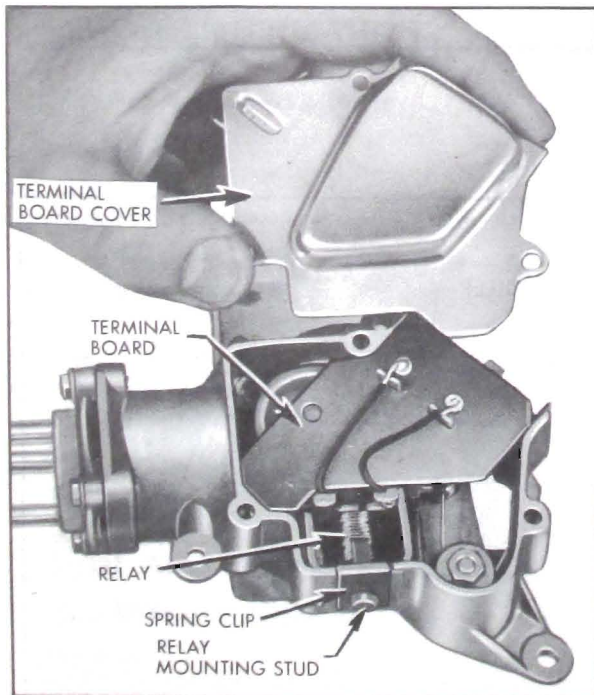

Figure 1-37—Washer Pump—Cover Side
A relay within the pump housing is energized anytime the washer button is depressed. See Figure 1-37. When energized, the armature is pulled up against the relay to release the ratchet pawl from the armature, allowing the ratchet pawl to engage the ratchet wheel teeth. At the same time, the relay armature hair spring trips to a position under the armature, holding it away from the ratchet wheel and ratchet pawl.
2. Slide spring clip off relay mounting stud. See Figure 1-37.